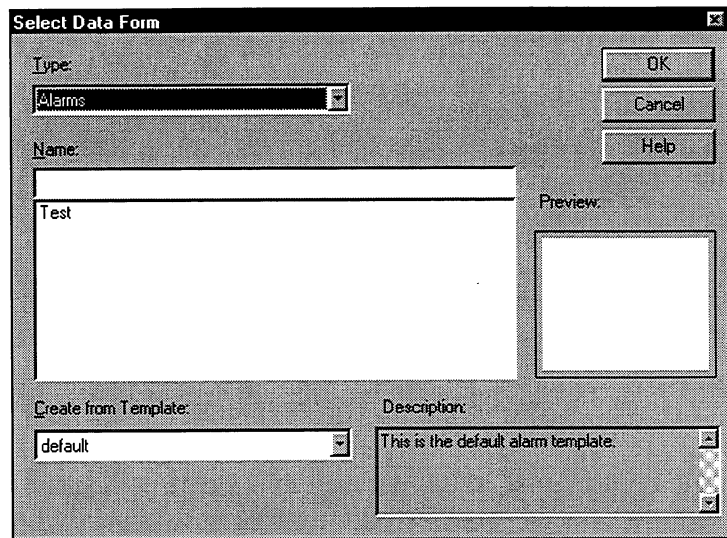

Figure 4-34. Creating an Alarm
1. Select the Data Editor command on the Tools menu, and then select Alarms as the Type, as shown in Figure 4-34.